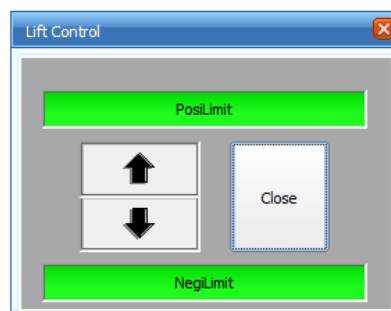

Fig 10: Lifting Carriage Up and Down
Step 10: Press the **Media Height** button to sense the media height (Refer to Fig 10).
Step 14: Press the **Purging** button (Refer to Fig 10) and clean print heads using the tissue provided with the printer.